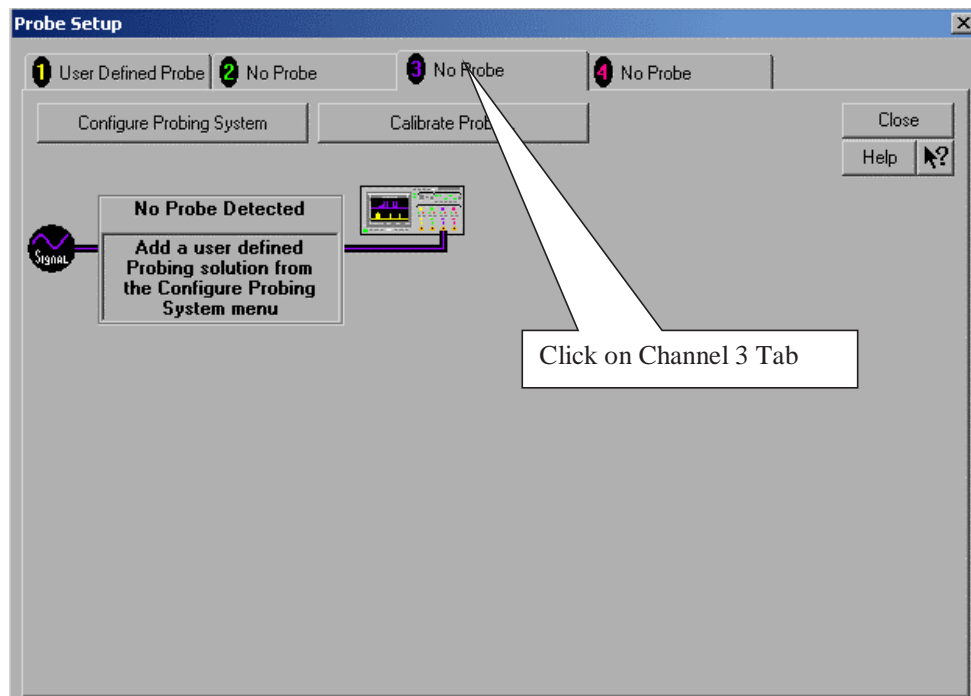

Figure 300 Calibration Window.
- 12 Referring to Figure 300 below, perform the following steps:
- 15 Click the Close button on the Probe Setup window (Figure 300) to close this window.